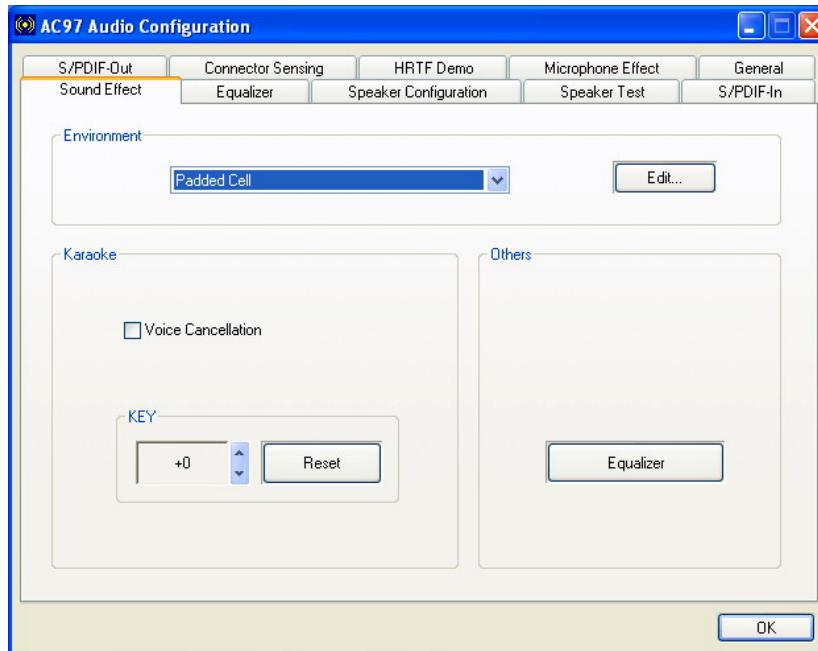

Figure C-4: Sound Effects Manager (ALC655)
Step 3: The sound effect manager appears. (See Figure C-4)
The Sound Effect Manager shown in **Figure C-4** is for the RealTek ALC655 audio CODEC. Different CODECs may have different sound manager appearances.
The **Sound Effects Manager** enables configuration of the items listed below. To configure these items click the corresponding menu tab in the **Sound Effects Manager** in **Figure C-4**.